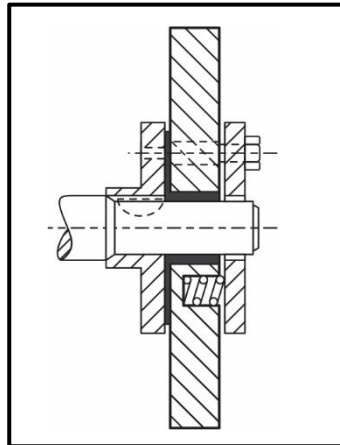

FIGURE 4.4
4.4 Identify the vibration damper shown in FIGURE 4.4 below.